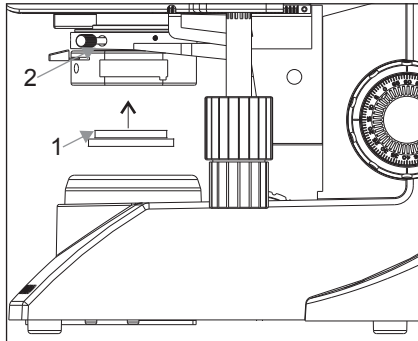

Fig. 18
- Fit the filter (1) into the bottom of the condenser (2) until it clicks into (Figure 18).
Focusing Procedure (Figure 18)